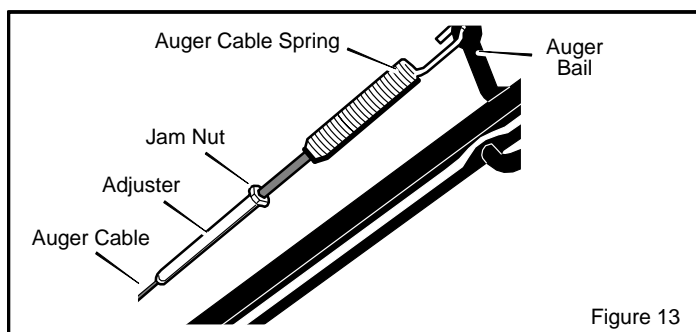

Figure 13
10. When you release the **auger bail**, the auger must stop rotating. Make sure the **brake** contacts the **auger drive pulley** (Figure 14) and that the **auger cable spring** (Figure 13) has slack (no tension). If not, check the cable spring adjustment as follows:
- Remove the end of the **auger cable spring** from the **auger bail** (see Figure 13).
- Loosen the **jam nut** (see Figure 13).